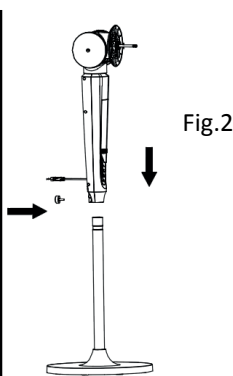

Fig.2
- b-.Put the fan body on to the column tube, and fix by the adjustment screw (Figure2).